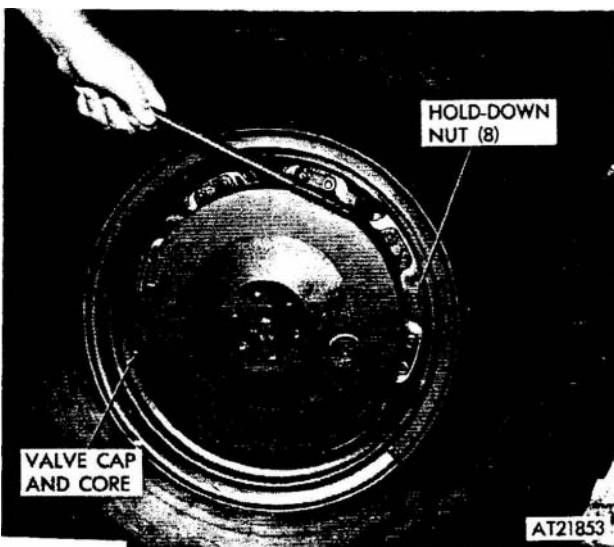

Figure 2-200. Tire and wheel, removal and installation.
(1) Loosen eight nuts (fig 2-200) securing tire and wheel to hub.
(2) Using a suitable jack, raise suspension until it is clear of ground.
(3) Remove nuts loosened in (1) above and remove tire and wheel.
(1) Remove valve cap and core (fig 2-200) and deflate tire.
(1) Position tire and wheel assembly on mounting studs (fig 2-200), and secure using eight nuts.
(2) Lower wheel and remove jack. Torque wheel nuts to 80 lbs-ft.